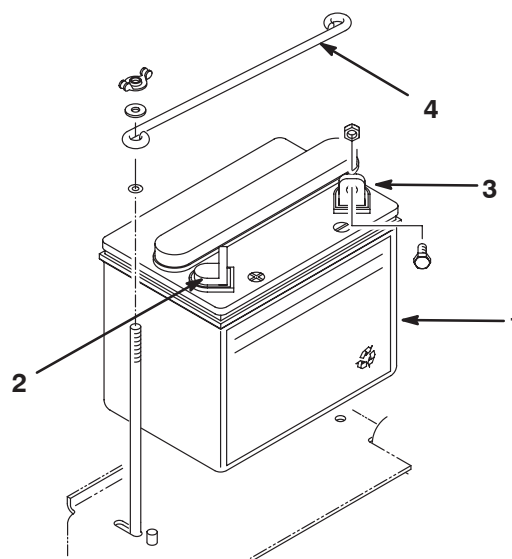

Figure 3
2. Remove (2) wing nuts and washers securing top battery hold down to side battery hold downs (Fig. 3). Remove top battery hold and remove battery.
1. Set the battery in place, with the terminals to the outside (Fig. 3).
3. Secure the two small black wires and the negative cable (black) to the negative (–) terminal of the battery with a 1/4–20 x 5/8 in. capscrew and locknut (Fig. 3).